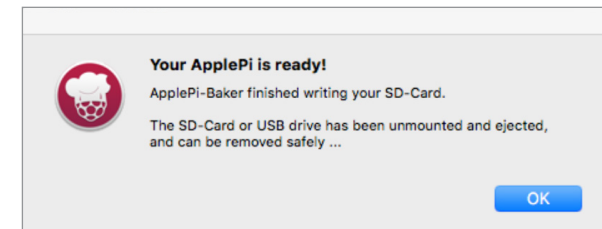

Figure 4-9. ApplePi-Baker - Write completed.
9) When complete, you will see a 'Apple-Pi Ready' notification (figure 4-9). Close the app and remove the microSD card from your Mac.